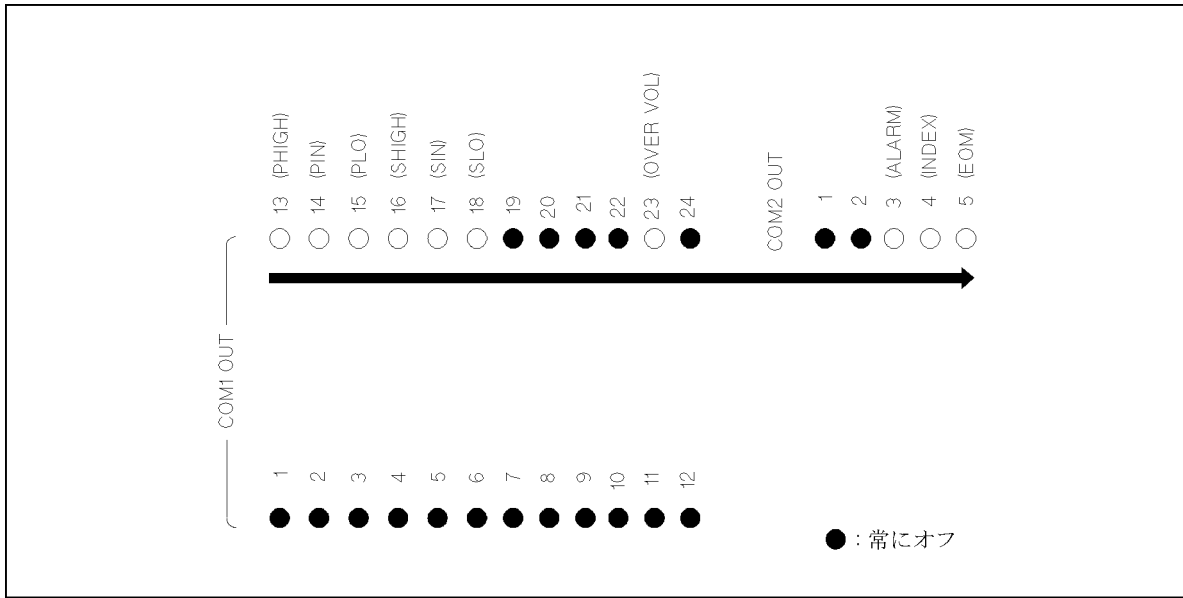

Figure 9-5. Handler interface Output Order
13. Confirm that the LEDs on the Handler Interface Tester light in the order shown in Figure 9-5, in accordance with the 4338B display.